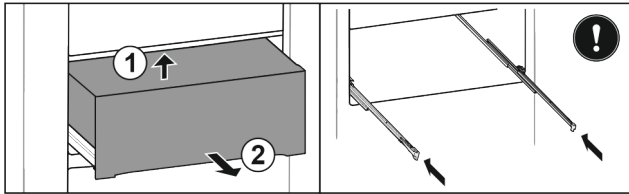

Fig. 36*
- ▶ Lift it up at the back from below Fig. 36 (1).
- ▶ Take out to the front Fig. 36 (2).